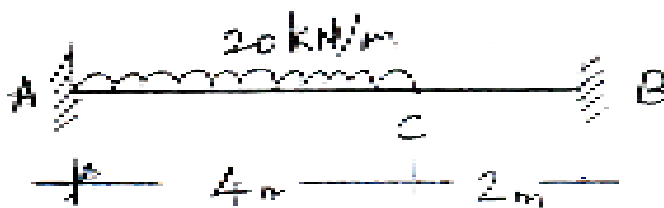

Fig. 8
- b) Find fixed end moments for a beam shown in Fig. 8. Hence Plot S.F.D. 8